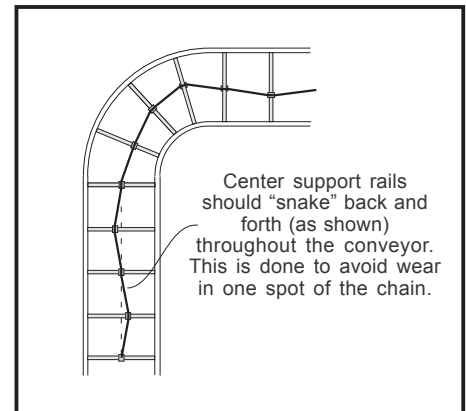

Figure 55
- Center support rails should “snake” back and forth throughout the length of the conveyor, as shown in *Figures 55 and 56*, to avoid wear in one particular spot under the chain.
*Figures 55 and 56 are shown as typical examples; actual layout and appearance of center support rails for specific applications may vary.*